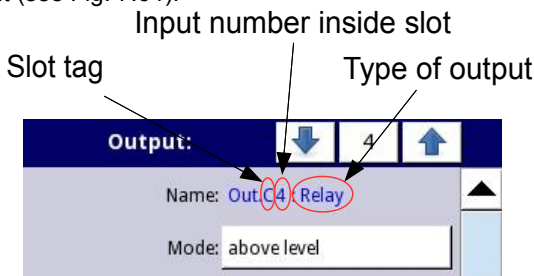

Fig. 7.63. Description of **Name** parameter in **Built-in outputs** menu
- **Name** - each outputs already has a name given by the device and user cannot change it - see Fig. 7.63,